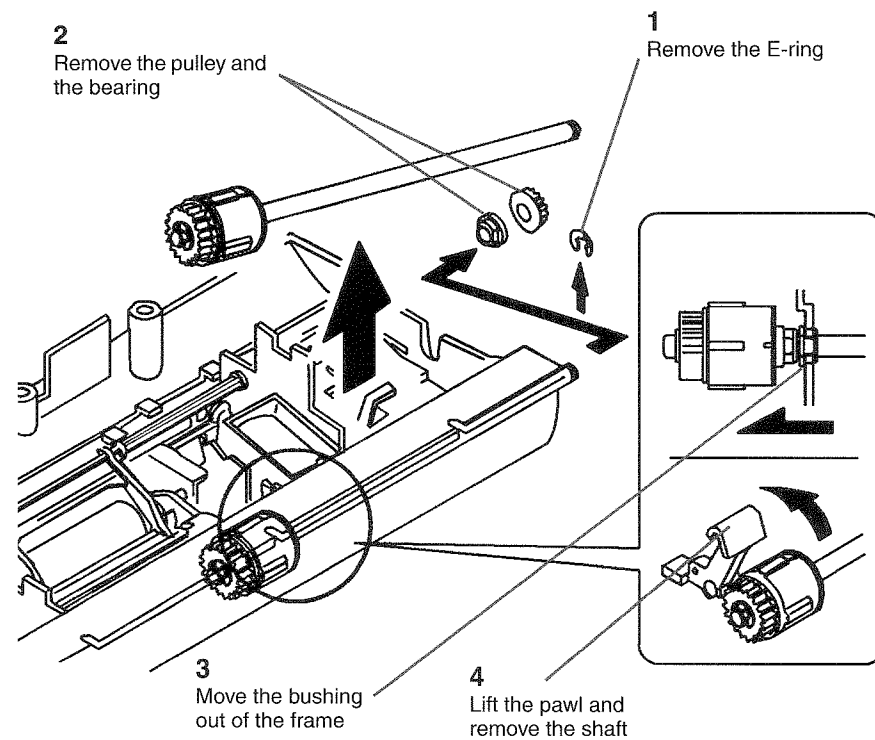

**Figure 3 Removing the SDF Feed Assembly**
3. (Figure 3): Remove the SDF Feed Assembly.